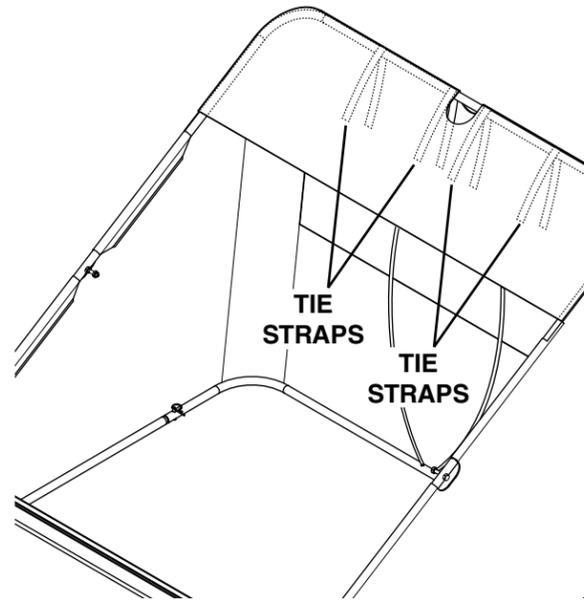

Figure 16
STEP 16 (SEE FIGURE 16): Tie the four tie straps tightly around the upper rear hopper tube.